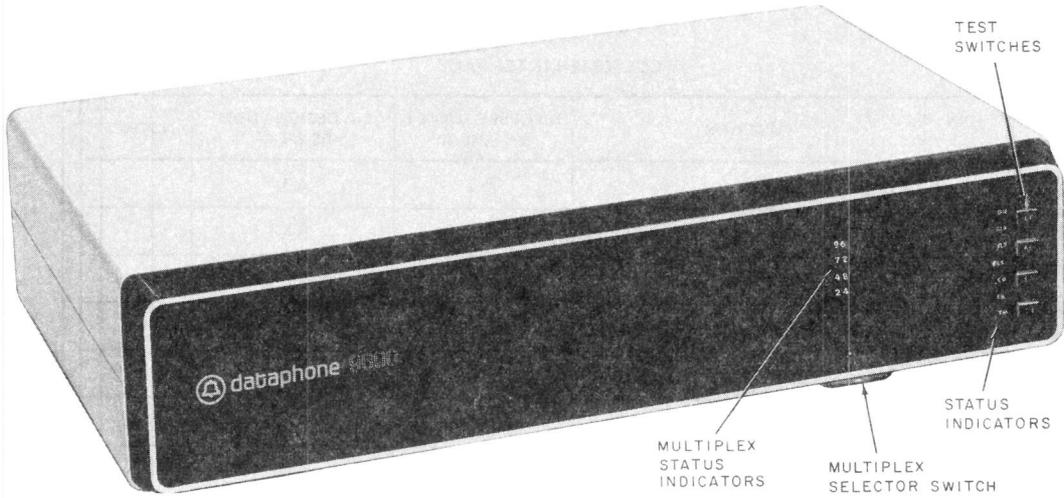

Fig. 1—Data Set 209A-L1—Front View
**2.01** DS 209A-L1 (Fig. 1) consists of a transmitter, receiver, and control circuits which are mounted on 19 KD-type plug-in circuit packs. The exterior of the data set consists of front and rear molded black plastic faceplates mounted on an extruded aluminum housing with a brushed finish. The overall dimensions of the data set are approximately 20-1/2 inches across the front, 5 inches high, and 13-1/2 inches deep. The weight is approximately 42 pounds.
**2.07** The multiplex selector switch which extends through the bottom of the data set is accessible from the front of the data set (Fig. 1). The switch is a 6-position continuous rotary-type